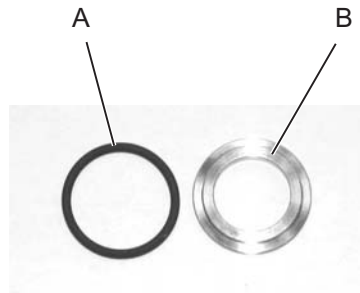

Figure 47: O-ring and contact pressure ring
Insert the contact pressure ring (see Figure 47, B) and O-ring (A) into the right-hand window mount drill hole on the laser tube. The O-ring has to point into the direction of the beam path adapter.